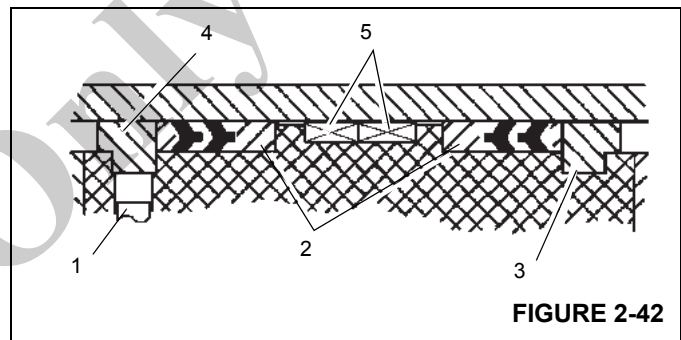

FIGURE 2-42
9. Install the guide lock rings, hydrolock seal assemblies Figure 2-42 and wear rings on the outside of the piston.